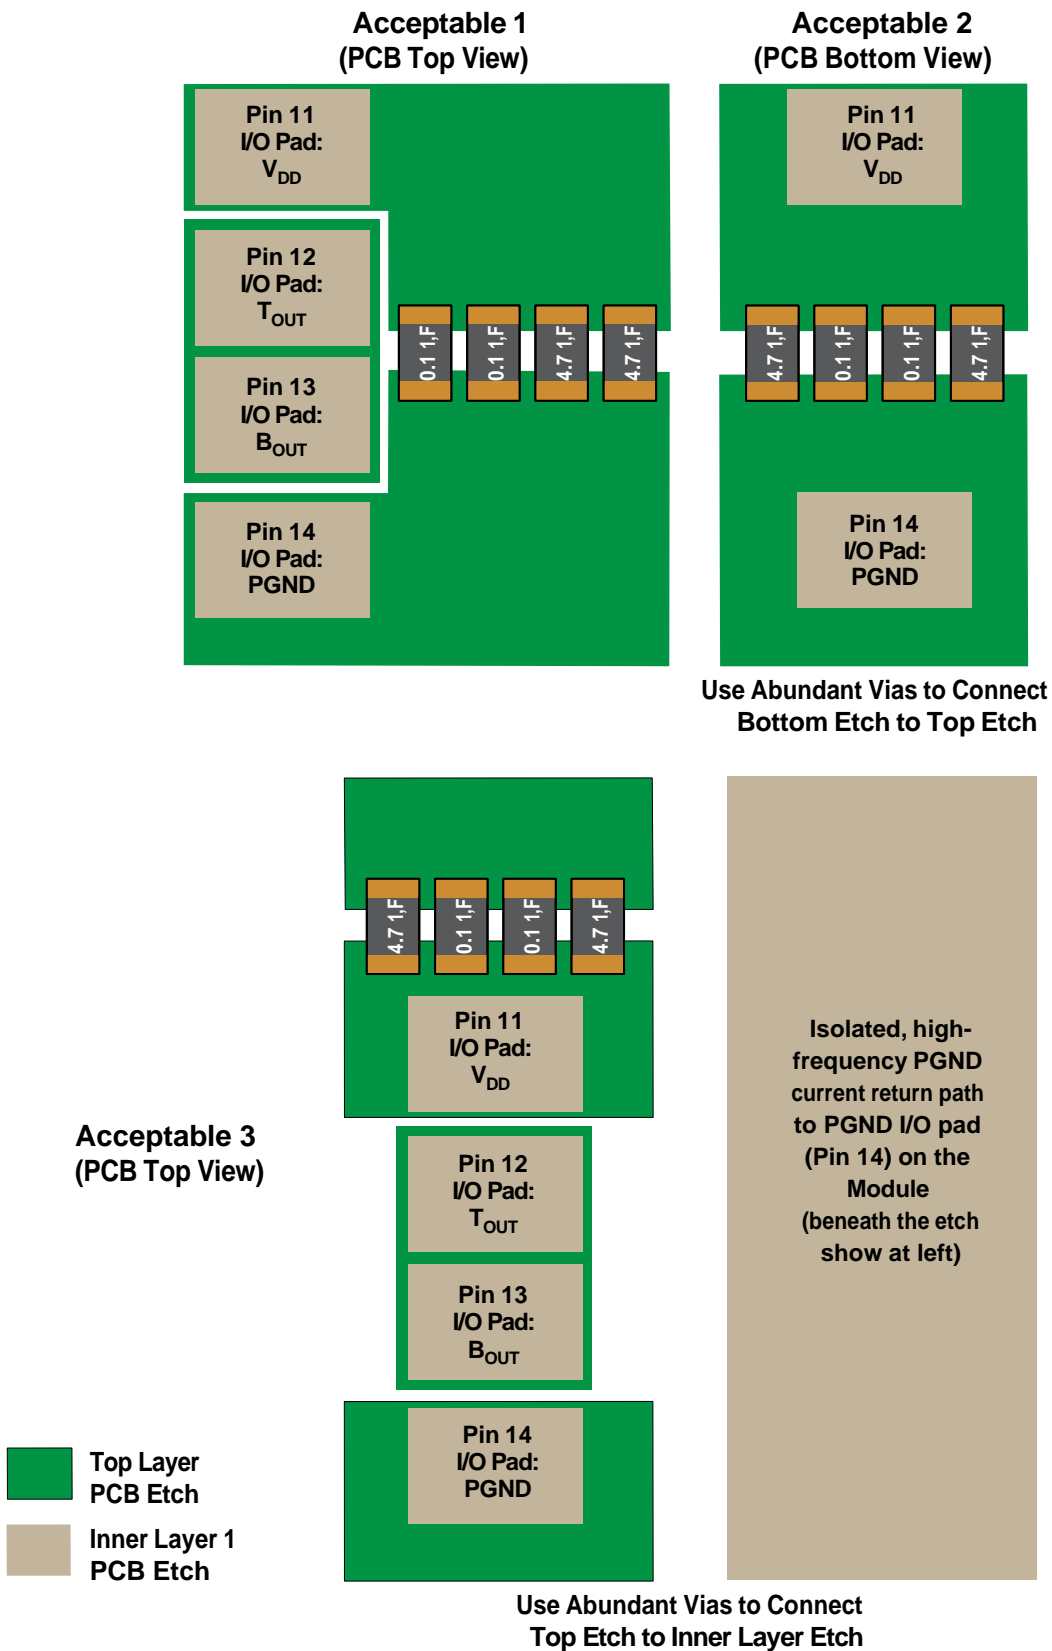

Figure 22. Recommended  $V_{DD}$ -to-PGND Power Supply Bypassing (Not to Scale)
The power supply pins and return pin of the FBS-GAM02-P-C50 require proper high frequency bypassing to one-another in order to prevent harmful switching noise-related spikes from degrading or damaging the internal circuitry in the FBS-GAM02-P-C50 module. The more critical bypassing situation is related to the  $V_{DD}$  supply to PGND (Pin 14), which bears the high rate-of-change voltages and currents associated with the internal eGaN® power switches interacting with a load. It is recommended that a minimum of two (2) 4.7 microfarad ceramic capacitors, one (1) 1.0 microfarad ceramic capacitor and one (1) 0.1 microfarad ceramic capacitor, all with 100  $V_{DC}$  ratings, be connected from  $V_{DD}$  to PGND. All four of these capacitors should be low ESR types, if possible. It is strongly recommended that these capacitors inscribe the smallest possible loop area between  $V_{DD}$  and PGND so as to minimize the inductance related to this loop area. Figure 22 illustrates three instances of recommended and acceptable  $V_{DD}$ -PGND bypassing, as implemented in PCB copper etch. Regardless, different end-use implementations will require different  $V_{DD}$  bypass capacitor placements, and it is strongly recommended that the chosen bypassing scheme be evaluated in hardware for its effectiveness.